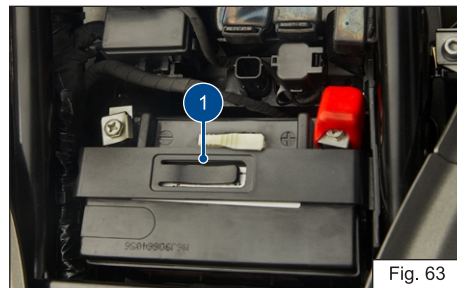

Fig. 63
- ◆ Remove the mounting bolt and take the battery holder (A) (ref. Fig. 63)